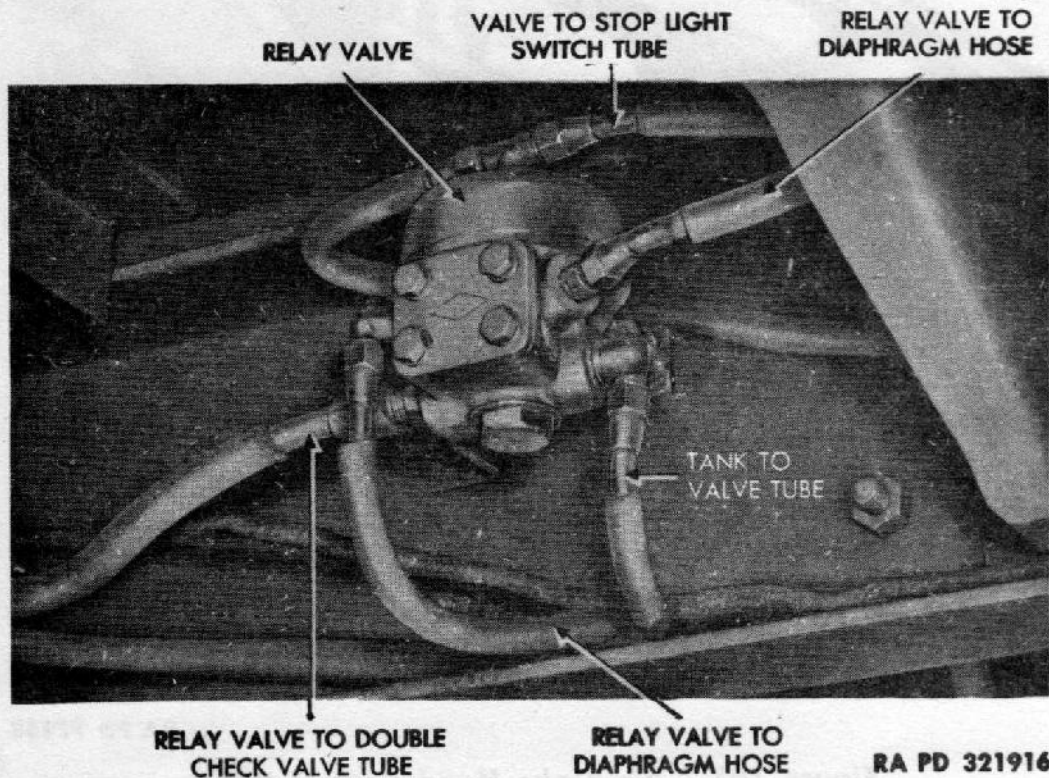

Figure 108 – Relay Valve Installed
(1) **DESCRIPTION** (fig. 108). The relay valve is attached to the right-hand frame side rail, near the air tanks. It can be reached from under the truck in front of rear axle. This valve acts as a relay station to speed up application and release of the rear wheel brakes
b. Removal (fig. 108). Disconnect all six air lines from valve. Remove the nuts, lock washers, and bolts which secure valve to bracket. Lift valve from bracket.
c. Installation (fig. 108). Position valve on bracket. Install the two bolts, lock washers, and nuts which attach valve to bracket. Connect the two relay valve to diaphragm hoses to the large fittings on sides of valve. To the tee on top of valve, connect valve to stop light switch tube and double check valve to relay valve tube. To the fitting on right-hand side of valve, connect valve to trailer coupling tube. To the fitting on left-hand side of valve, connect tank to